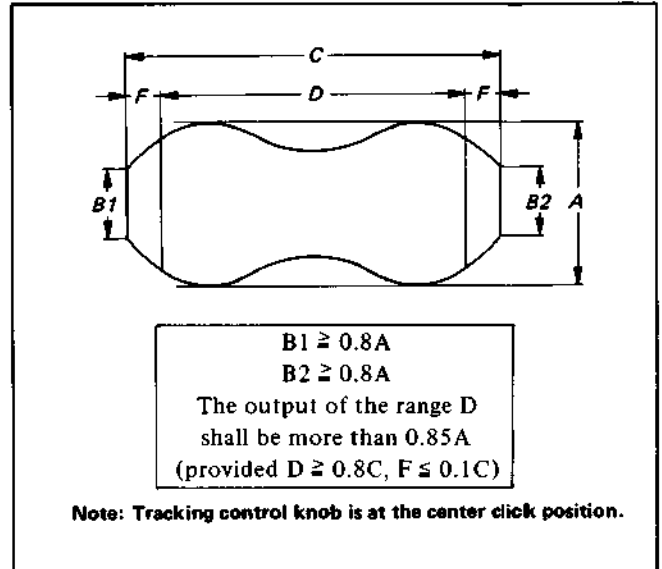

Fig. 4-20
- 4) Play back the recorded part and check that the RF output satisfies the conditions described in Fig. 4-20. (Operate this procedure for both Ach and Bch)